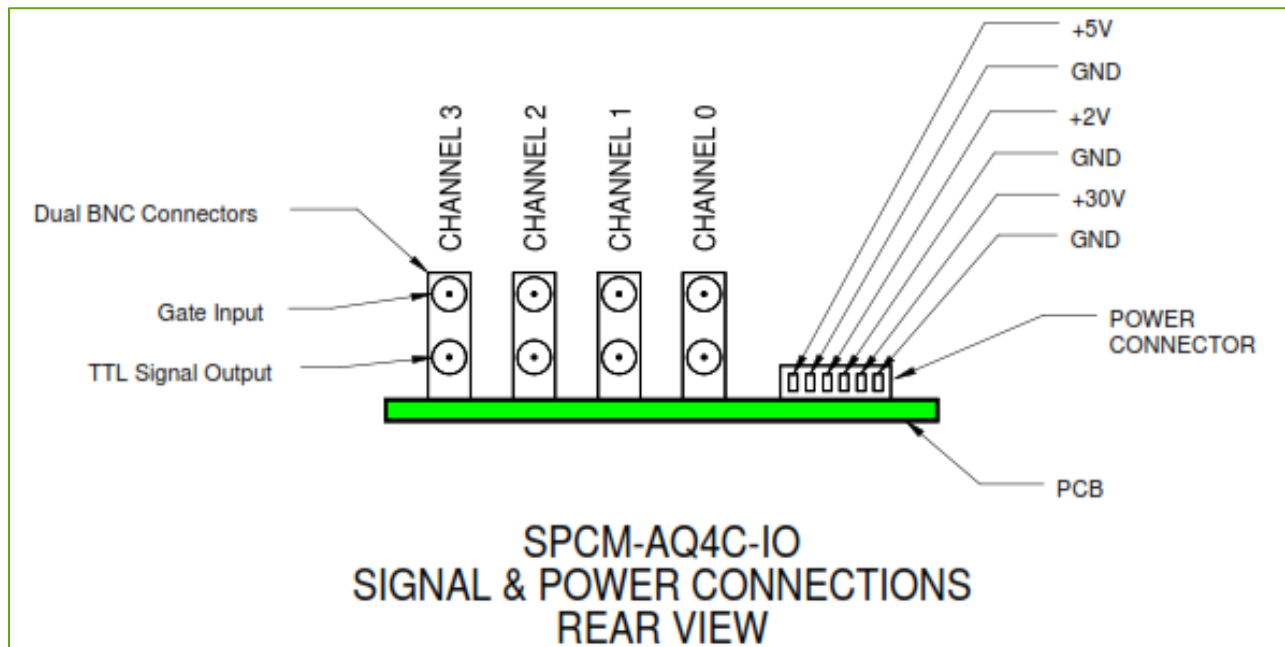

FIGURE 9.2 REAR PANEL
- 9.7. OUTPUT. The *output* of each channel is a TTL level signal and is *obtained from the bottom BNC connector* for each channel. **EACH** output channel **MUST** be **terminated** into a 50-ohm load at the measurement source (counter, scope, etc) for correct operation. Refer to figure 9.2.